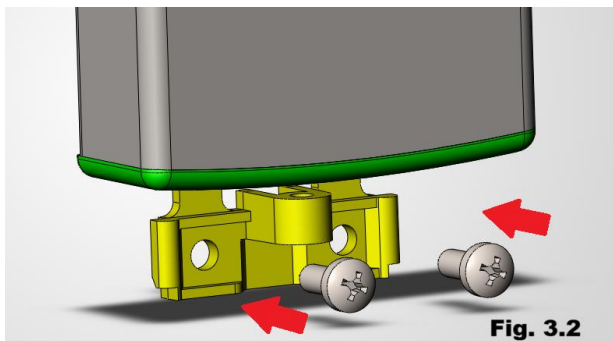

Fig. 3.2 — Fastening of the lower bracket to the wall (check vertical alignment using a spirit level)
4. With the fixture in position, check that it is vertically aligned using a spirit level (Fig. 3.2).
5. Secure the lower bracket (Part. A) to the wall using suitable anchoring systems (Fig. 3.2).